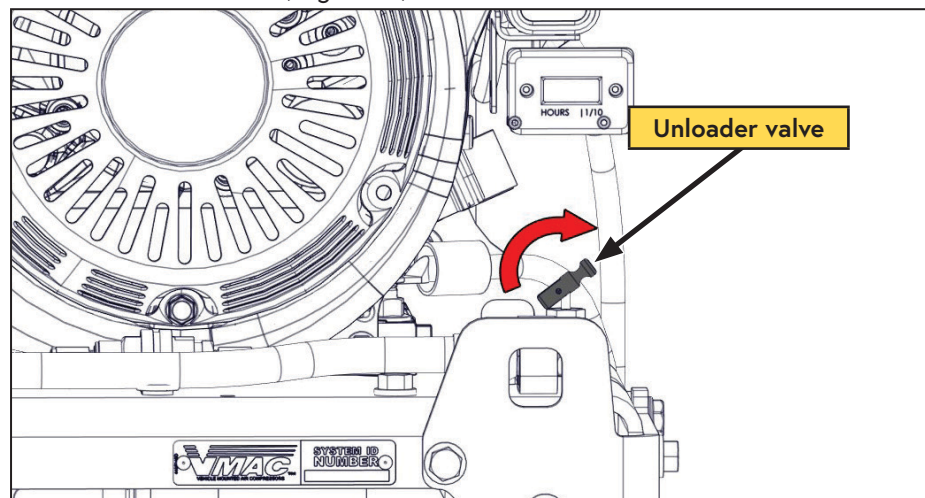

Figure 20 — Unloader valve
- 8) Once the engine has reached normal operating temperature, release the tension on the unloader valve (Figure 20).